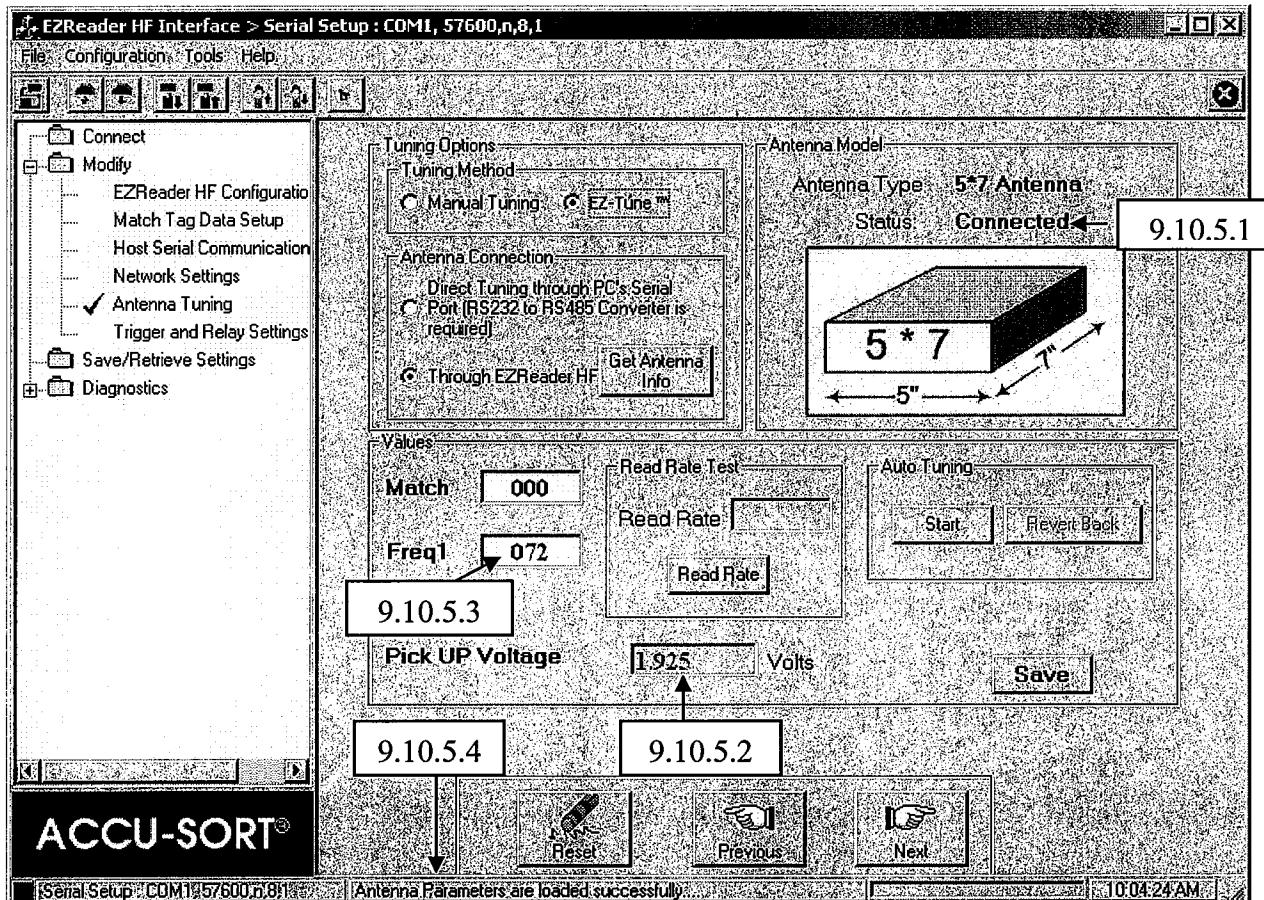

Figure 22
- 9.10.5 Click on the Modify Folder and then on Antenna Tuning, you should see a screen similar to that shown in Figure 22. Check the following: